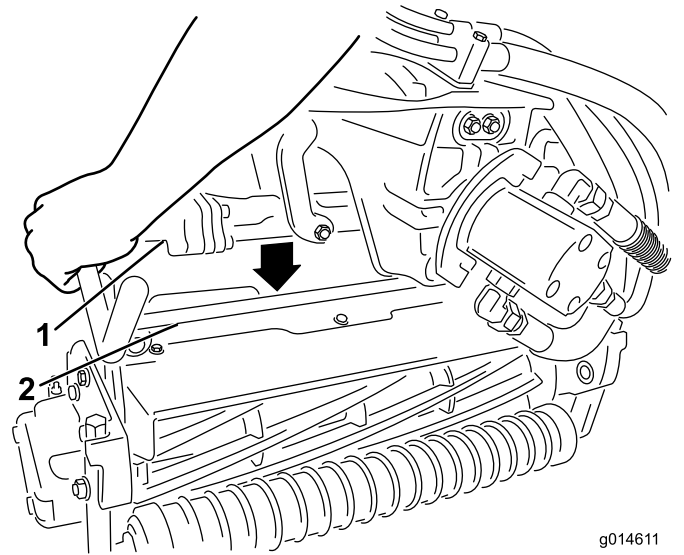
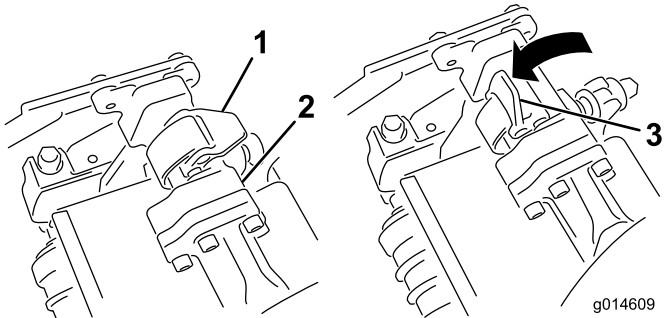

Figure 34
Figure 33
- 4. With the latches on the suspension-arm bar pointing up (i.e., open) (Figure 33), push the suspension arm down so that the bar fits over the bar across the top of the cutting unit (Figure 34).
- 5. Close the latches down and around the cutting-unit bar and lock them in place (Figure 33).
5. Open the latches on the suspension-arm bar of the cutting unit you are removing (Figure 33).